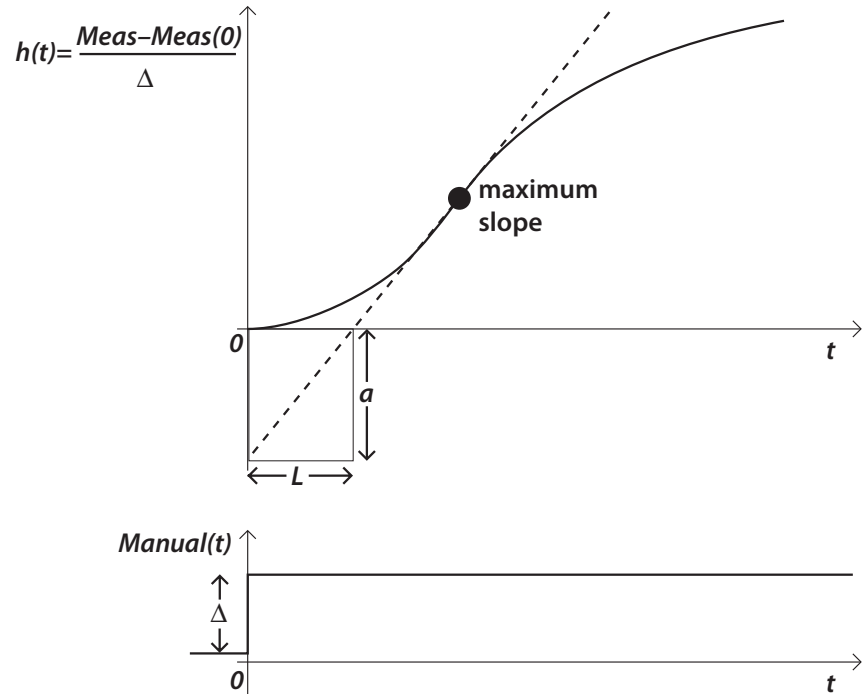

Figure 2.2: The open-loop step response of the process.
- Observe the point of maximum slope in h . Extend a straight line through this point, tangent to h , downward (see Figure 2.2).
- Let L be the time coordinate where the straight line crosses $h = 0$; and let a be the negative of the h -intercept (i. e., $a > 0$ in Figure 2.2).